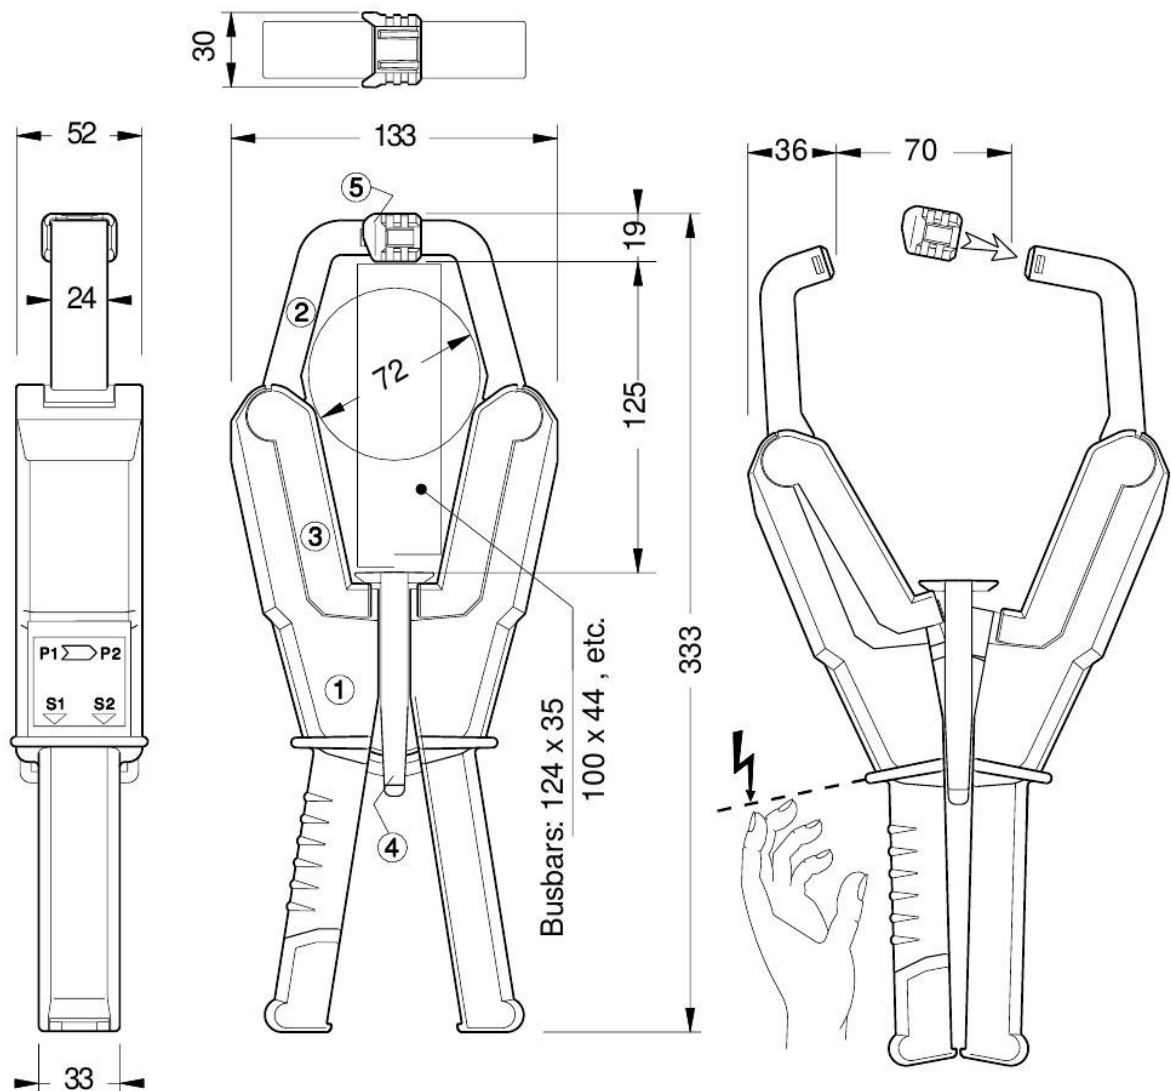

Figure 2.82: Dimensions in mm and protection against electric shock and short-circuit
- Use safety cover 'P' Figure 2.82 [→94] for protection against short-circuits during clamping!